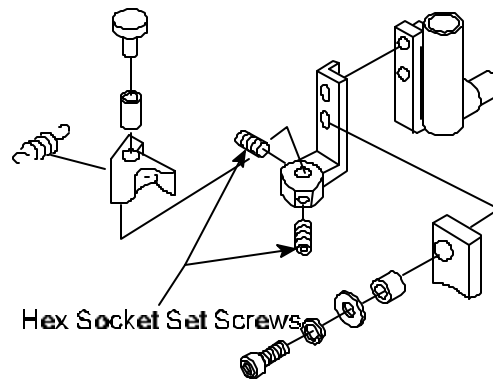

Figure 7
18. **Using** a 2 mm Allen Wrench, **tighten** 2 hex socket screws to secure Needle Bar Driver on Needle Bar Driver Fixing Base. See Figure 7.